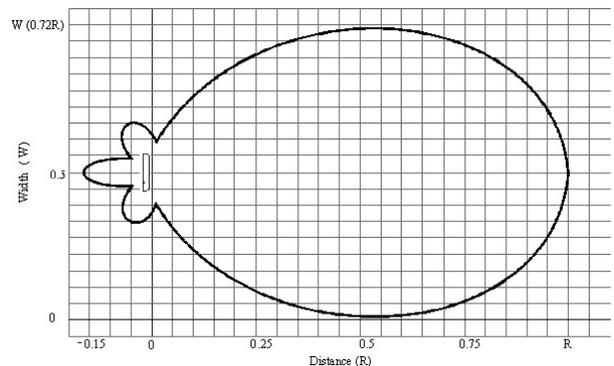

Figure 2. Effective RF Field for LR-2200 Reader
5. Results: Tags should read about 3 reads per second, inside the “balloon” (Figure 2). All tags should read to 15 feet or more.